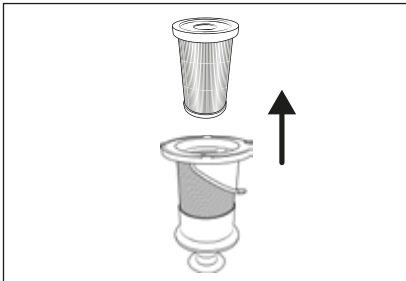

Fig. 19
- 4) Remove the HEPA filter **5** from the stainless steel filter **6** by reaching into the opening of the HEPA filter **5** and pulling it out of the stainless steel filter **6** (see Fig. 19).